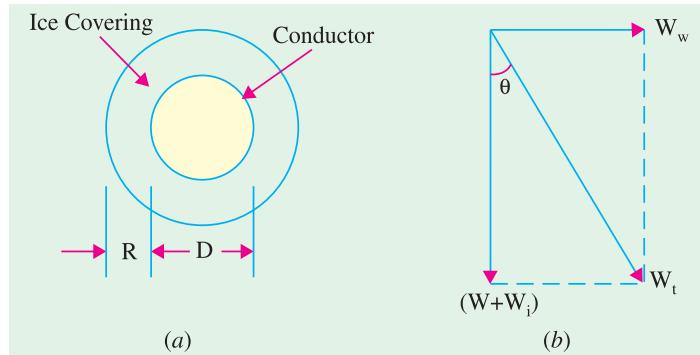

Fig. 41.64
In the formulae derived so far, effect of ice and wind loading has not been taken into account. It is found that under favourable atmospheric conditions, quite an appreciable thickness of ice is formed on transmission lines. The weight of ice acts vertically downwards *i.e.* in the same direction as the weight of the conductor itself as shown in Fig. 41.64. In addition, there may be high wind which exerts considerable force on the conductor. This force is supposed to act in a horizontal direction. If  $W_i$  is the weight of ice per unit length of the conductor and  $W_w$  the force per unit length exerted by the wind, then total weight of the conductor per unit length is
It is obvious that in all equations derived in Art. 41.42 and 41.43,  $W$  should be replaced by  $W_t$ . As seen from Fig. 41.64 (b), the conductor sets itself in a plane at an angle of  $\theta = \tan^{-1} [W_w/(W + W_i)]$  to the vertical but keeps the shape of a catenary (or a parabola approximately).
**Solution.** (i) Maximum sag in a direction making an angle of  $\theta$  (Fig. 41.64) is  $d = W_t l^2/2T$